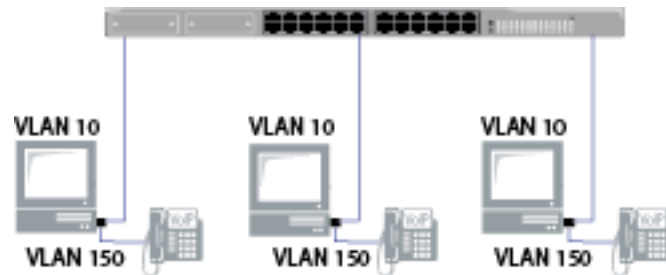

Figure 54. VoIP Phone Configuration Example
The AT-2911GP adapter card is installed on a PC and connects the PC to the Ethernet network through the fiber optic port and a Powered Device (PD) through the PoE+ copper port. A PD is a device powered through an Ethernet cable by a Power Supply Equipment (PSE). A PC with the AT-2911GP adapter card is a PSE; a VoIP phone, Wi-Fi access point, and security camera are PD's. Figure 54 illustrates the configuration of PC's and VoIP phones as an example using the AT-2911GP adapter cards.